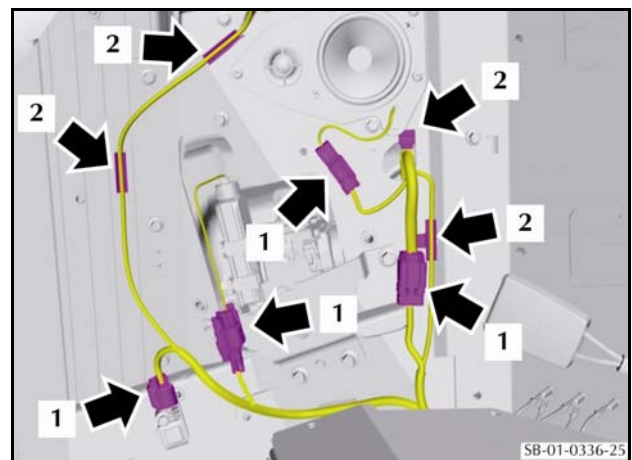

Figure 25
29. Connect the four electrical connectors (1) to the occupant restraint actuation sensor, seat belt inertia reel, speaker assembly and the main body wiring harness (Refer to Figure 25).
30. Install the wiring harnesses into the four clips (2).